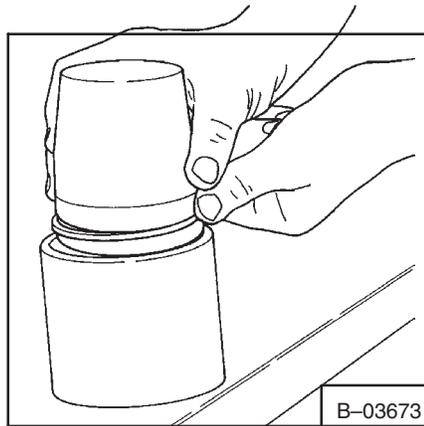

**Fig. 2-59** Installing O-Ring
3. Install the O-ring on the piston using the tool (Fig. 2-59).